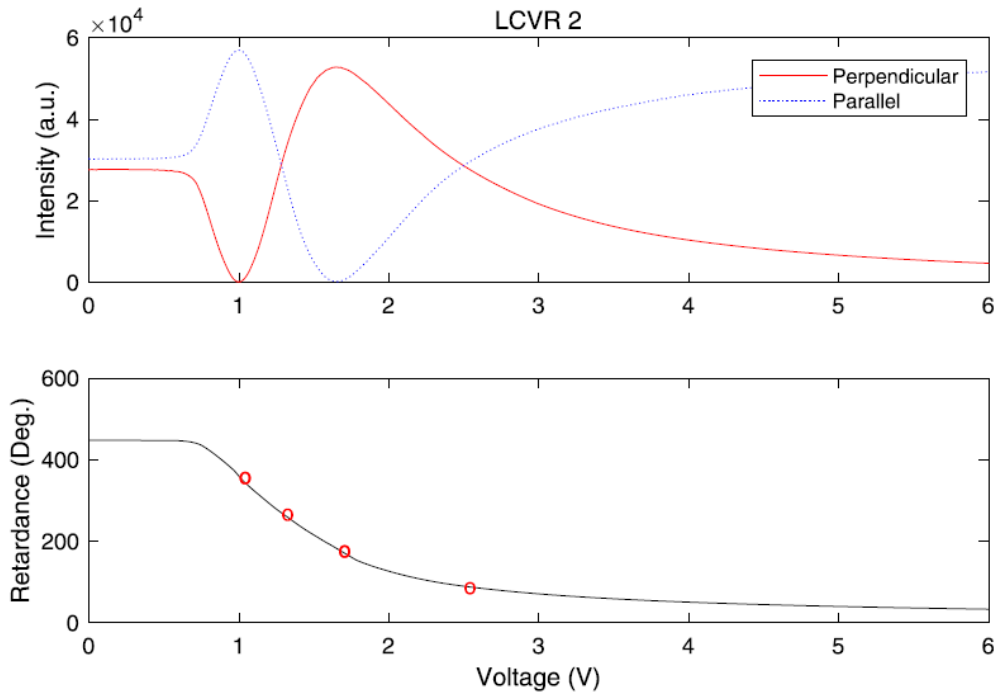

Figure 3. Retardance-voltage relationship of a testing LCVR.
where $N\pi$ is the ambiguity for the determination of δ . For $0^{\circ} \leq \delta \leq 180^{\circ}$, we use equation (2a) with $N=0$ to calculate the δ . For $180^{\circ} \leq \delta \leq 360^{\circ}$, we use equation (2b) with $N=1$ to calculate the δ . An example of the LCVR retardance-voltage relationship is shown in Figure 3.
A series of LCVR calibration intensity images is given. The range of the applied voltages is from 0V to 6V, with an interval of 0.3V. Using these 21 intensity images to draw a calibration curve as Figure 3 shows, using Equation (2).
right side spot respectively, in the same image). By measure the maximum intensity in the 2 beams in each image, they will be used as the L_{\perp} and L_{\parallel} in the equation (2), an calculate the phase retardance at each image that corresponding to specific voltage, and thus make the retardance-voltage plot, shown in Figure 3 by measuring all images. This is the requirement for this assignment.